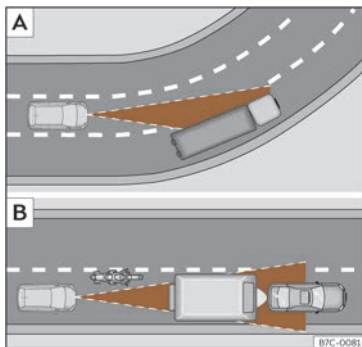

Fig. 105 [A] Vehicle on a bend. [B] Motorcyclist ahead, out of range of the radar sensor.
The ACC may not detect the vehicle in front on a curve, or may regulate the distance from vehicles in other lanes >>> **Fig. 105 [A]**.
- Vehicles that are not aligned while driving or that are outside the sensor's detection area, such as motorcycles >>> **Fig. 105 [B]**